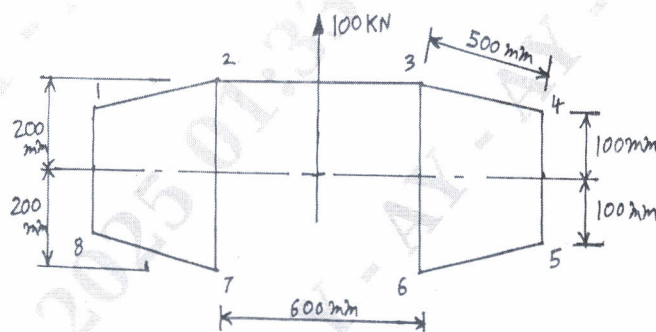

Fig. Q.3 (b)
b. If the wing box as shown in Fig. Q. 3(b) is subjected to a torque of 100KNm, calculate the rate of twist of the section and the maximum shear stress. The shear modulus is 25000 N/mm².
- 4 A wing box has the cross section shown diagrammatically in Fig. Q 3(b) and supports a shear load of 100 kN in its vertical plane of symmetry. Calculate the shear stress at the mid point of the web 36 if the thickness of all walls is 2 mm. (20 Marks)